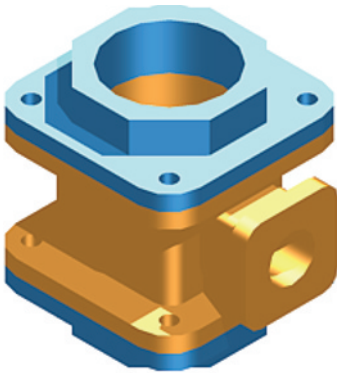

Fig. 17.8 Second example –
11. Turn layer **0** back on and move the top into its correct position relative to the main part of the valve. Then with the **Mirror** tool, mirror the top to produce the bottom of the assembly (Fig. 17.8).